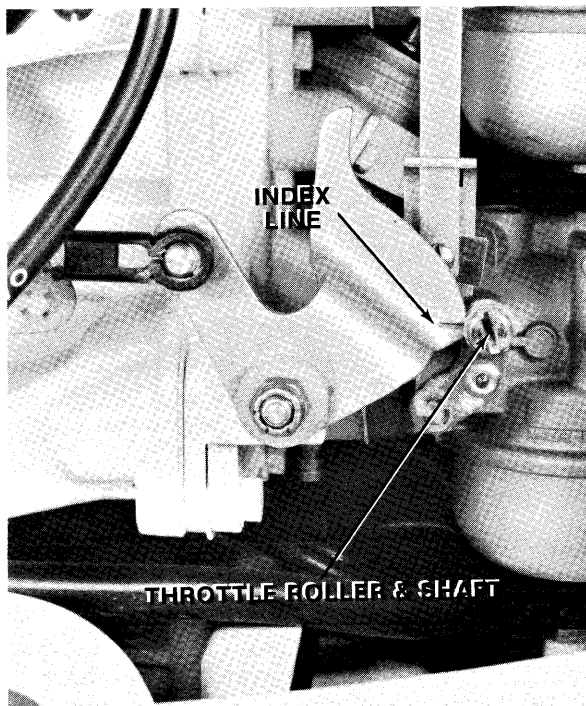

Figure 13—Adjusting Point of Throttle Opening
- B. Adjust throttle roller shaft by loosening stop nut and turn shaft until throttle roller just contacts the throttle cam at index line as shown in figure 13.